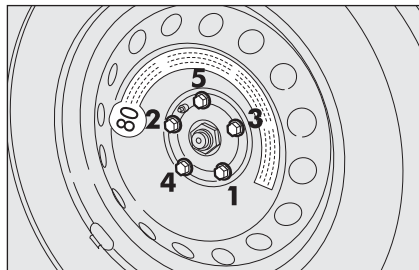

fig. 11
- Use the wrench provided to fasten the bolts completely in a criss-cross fashion according to the sequence shown in **fig. 11**.
- Using the wrench provided, fully tighten the bolts in the sequence shown in **fig. 11**;
- lower the car and remove the jack, then, using the wrench provided tighten the bolts according to the sequence previously shown for the space-saver spare wheel **fig. 11**.